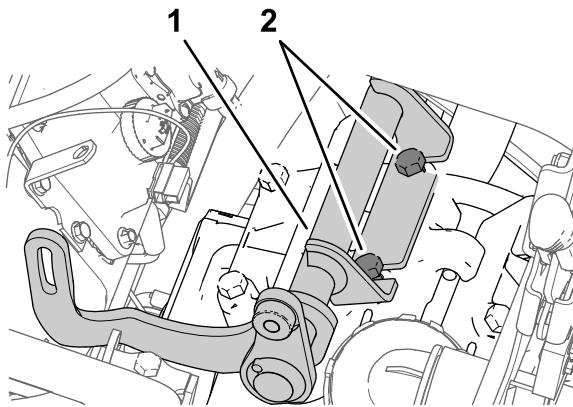

图179
2. If the alternator bracket is placed in step 1 between the pump head and the pump 图179.